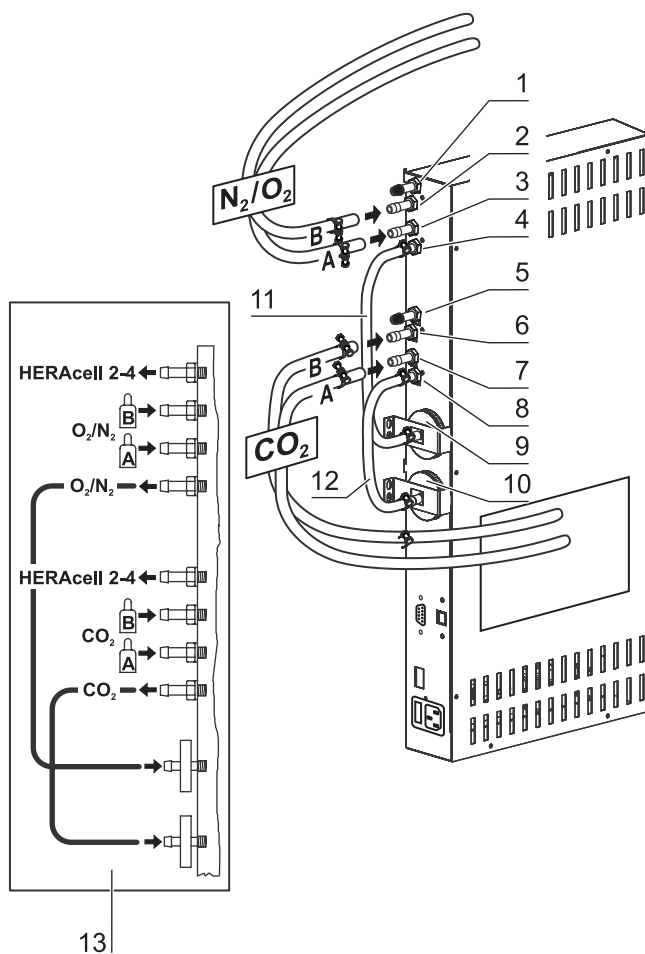

Fig. 26: Combined connection with gas monitoring system (optional)
**Fig. 26:** Devices with the combined CO2/O2/N2 connection that are equipped with the optional gas monitoring system are connected according to connection diagram [13] and have the following gas connections: